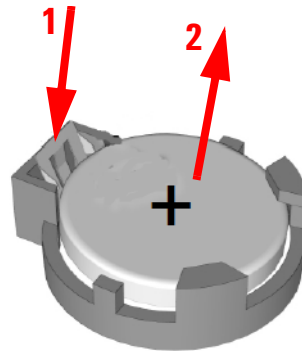

Figure 34 Replacing the Battery
- 5 Remove the battery (see Figure 34 below). Press the battery release latch (1). The battery should pop out (2).